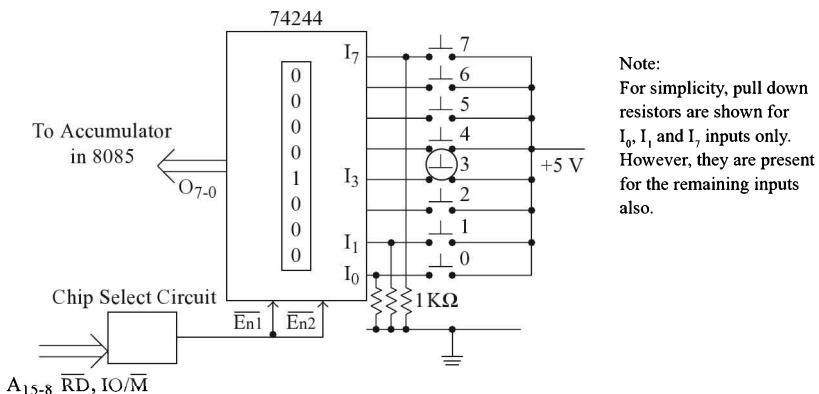

Fig. 22.11
A circuit that uses 74244 to interface a simple keyboard with eight keys is shown in Fig. 22.11.
In Fig. 22.11, one end of all the keys is connected to logic 1. The other end of the key that is connected to the 74244 input is also connected to ground through a resistor. This resistor is normally called a pull-down resistor. A pull-down resistor helps in bringing the logic level at a key that is not pressed to logic 0. Pull-down resistor value used is typically 1 KΩ. If only key 3 is pressed, then I₃ input of 74244 will be logic 1. In this case the pull-down resistor will have no effect in the circuit operation. All other inputs of 74244 will be logic 0. The pull-down resistors help in bringing these inputs of 74244 to logic 0. Thus, when only key 3 is pressed, the inputs to the 74244 would be 00001000 = 08H. This value gets loaded into the accumulator when IN 77H instruction is executed.